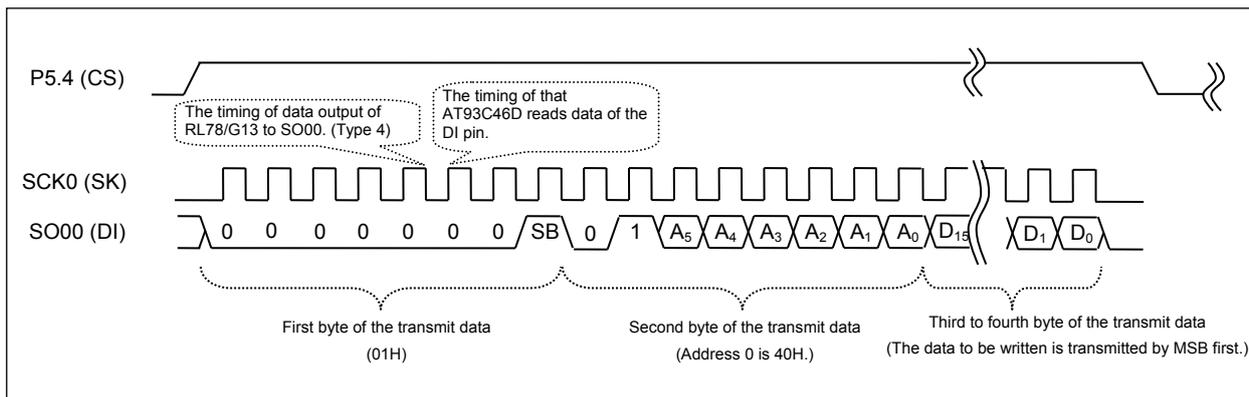

Figure 5.1 The Timing of WRITE Command Execution
(2) An EWEN command (writing/delete permission) is executed to device on the opposite side (AT93C46D). Thereby, a WRITE command (writing) and an ERAL command (all the area deletion) become usable.
(3) An ERAL command (all the area deletion) is executed to device on the opposite side (AT93C46D). Then, the CS pin of device on the opposite side (AT93C46D) is set to Low (non-selected state), and the DO pin (status) is checked after standby of a specified period of time. This is repeated until confirming High (all the area deletion is completed) of the DO pin.
(4) A WRITE command (data writing) is executed to device on the opposite side (AT93C46D). Then, the CS pin of device on the opposite side (AT93C46D) is set to Low (non-selected state), and the DO pin (status) is checked after standby of a specified period of time. This is repeated until confirming High (all the area deletion is completed) of the DO pin. After the confirmation, the address for writing and the data to be written are updated respectively, and this is repeated 64 times from address 0 to address 63 of device on the opposite side (AT93C46D).
The data to be written is 2 bytes for one address. Because total 9 bits of a start bit (1), OpC (2), and an address (6) accompany the data to be written in advance, a total of 25 bits are right-aligned (LSB) in “unsigned char” type 4 bytes and transmitted. The 1st byte is set to 00000001B, the 2nd byte is set to 01A5A4A3A2A1A0B, the 3rd byte is set to D15D14D13D12D11D10D9D8, the 4th byte is set to D7D6D5D4D3D2D1D0, and they are transmitted by MSB first. Because device on the opposite side (AT93C46D) reads the data of the DI pin in the rising edge of clock timing, the phase type 4 can respond in CSI of RL78/G13. Figure 5.1 shows the timing of WRITE command execution.